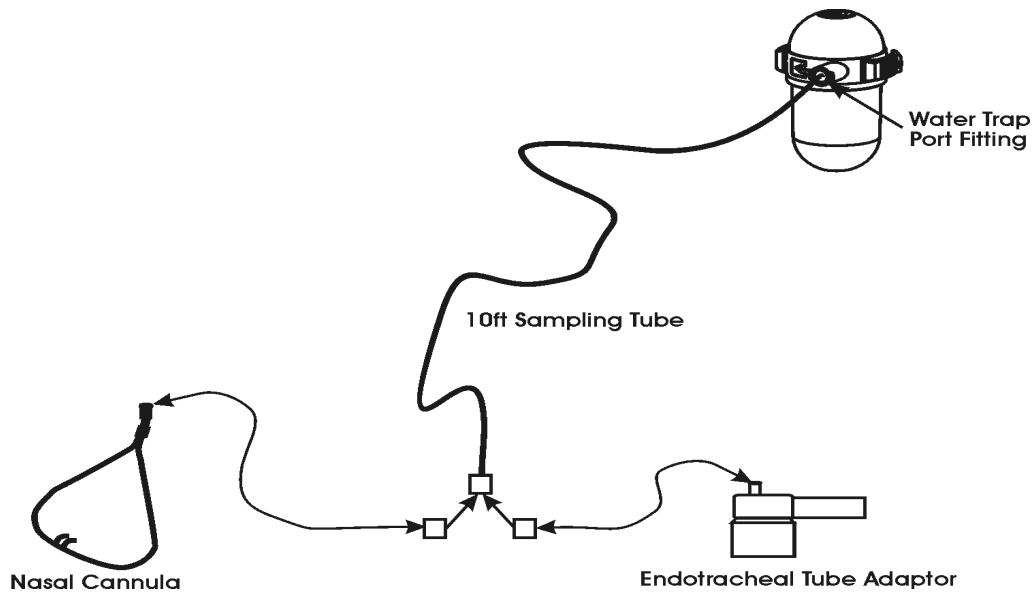

Figure 4-13. The Patient Sampling Circuit
- a. The patient sampling circuit (**See Figure 4-13**) consists of the sampling line and either a sampling nasal cannula or a side stream adaptor connected to an endotracheal connector. All fittings in the circuit are Luer-Lock type. All fittings should be fitted together securely to keep them from separating during the procedure, and to ensure proper sampling without the introduction of outside air. **Loose fitting will result in Gas measurement errors.**